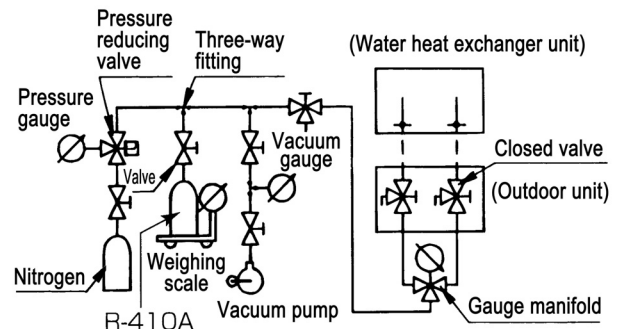

Figure 4
5. After connecting the piping, perform gas leakage testing by means of an air purge (Figure 4).